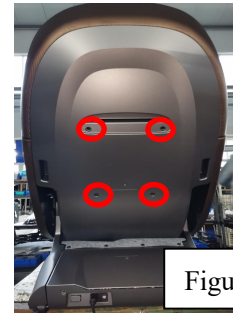

Figure 1
1.1 As shown in Figure 1, use a Phillips Screwdriver to remove 4 pieces of ST4.2\*16 Screws and take off the Backrest Rear Shield.